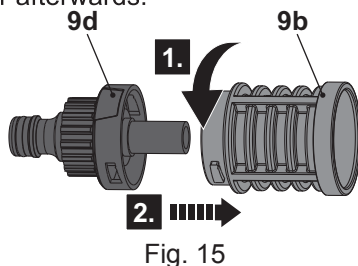

Fig. 15
1. Remove the filter adaptor (9d) and filter (9b) from water hose (9).
2. Turn the filter (9b) anti-clockwise (Fig. 15, step 1) and remove it from the adaptor (step 2).